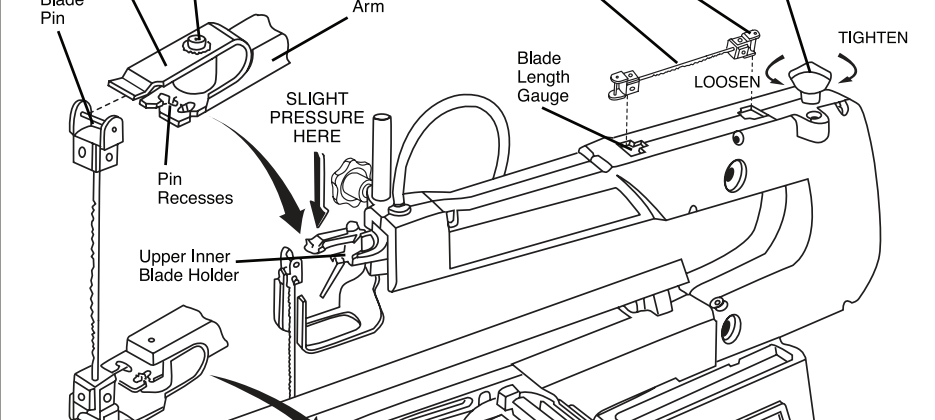

Fig. 9
- Install the blade while inserting one end of the blade and adaptor through the access hole in the table and hooking the blade adaptor onto the outer section of the lower blade holder. Slide top adaptor onto pin recess between adaptor guard and outer section of the upper blade holder. You may need to press down lightly on the upper blade holder to install the blade. (Fig. 9)